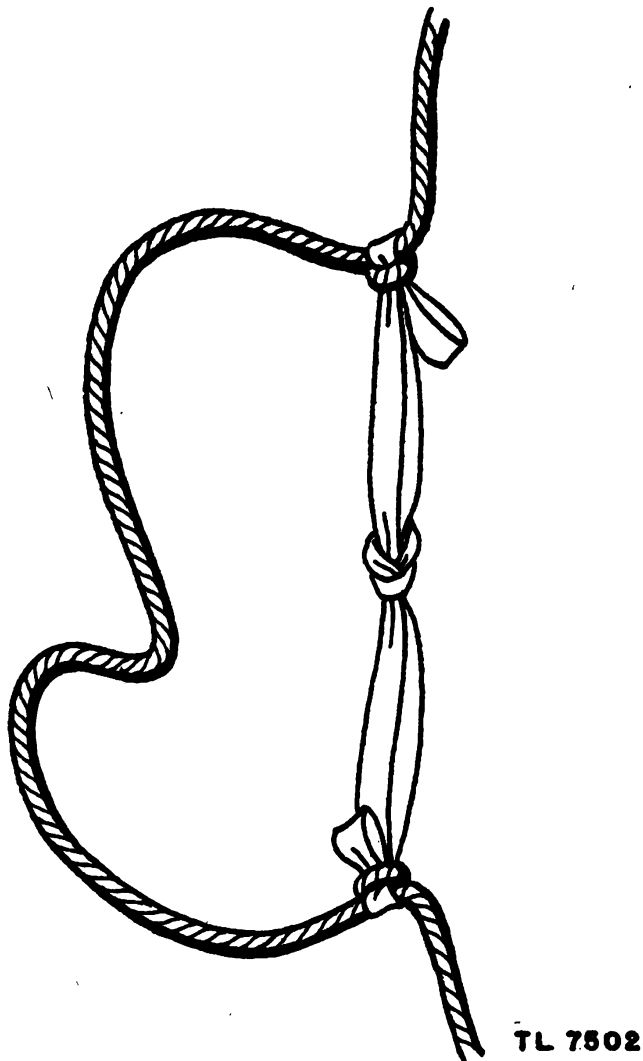

FIGURE 9. *Spanning a bight.*
(3) *Release in very high wind.* In a very high wind, the line from the parachute to the radiosonde should be shortened to about 20 feet. Heavy rubber bands are tied in this line (called "spanning a bight," as shown in fig. 9) to absorb the shock when the balloon lifts the radiosonde.
(2) Swing the hands toward the wind, and release the balloon and the lighting unit at the same time. A wind stronger than moderate may cause some difficulty in releasing a balloon with lantern attached. Link three or four rubber bands together, and insert them in the cord at a point halfway between the balloon and lantern (fig. 9). This arrangement will absorb the initial shock to the lantern. Hold the balloon and lantern so that there is slight tension on the rubber bands, and release both at the same time. Successful launchings in winds 25 miles per hour or over can be accomplished by this method.